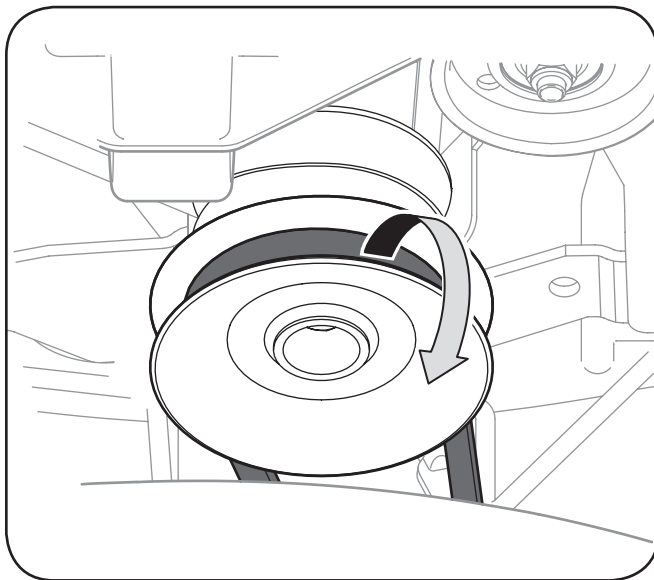

Figure 7-2
4. Remove the belt from around the tractor's PTO pulley. See Figure 7-2.
3. Remove the deck belt from around the unit's PTO drive pulley as shown in Figure 7-2. Simply roll one side of the belt OFF of the pulley and then work it OFF the pulley by continuing around the pulley until the belt is OFF of the pulley.
8. Feed the deck belt through the belt keeper rod and work it around and onto the PTO drive pulley as shown in Figure 7-2.